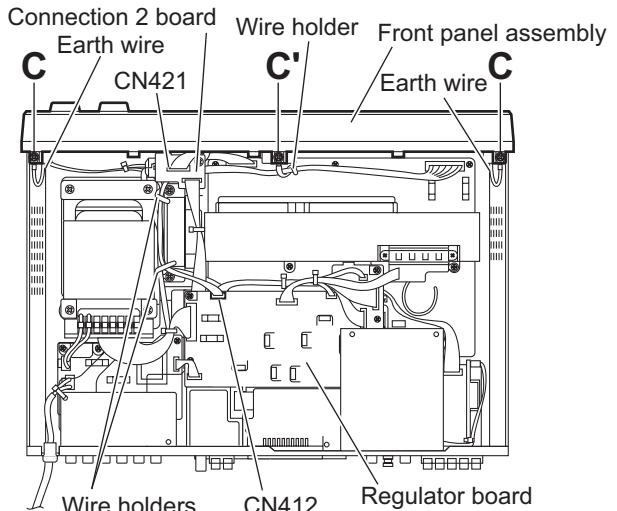

Fig.3
(See Figs. 3 to 5)
(1) From the top side of the main body, disconnect the wire from the connector CN412 on the regulator board. (See Fig.3)
After reassembling, fix the wires with the wire holders as before. (See Fig.3.)
(2) Disconnect the wire from the connector CN421 on the connection 2 board. (See Fig.3)
(3) Remove the two screws **C** and screw **C'** attaching the front panel assembly. (See Fig.3)
- When attaching the screw **C**, attach the earth wires with them. (See Fig.3.)
- When attaching the screw **C'**, attach a wire holder with it. (See Fig.3.)